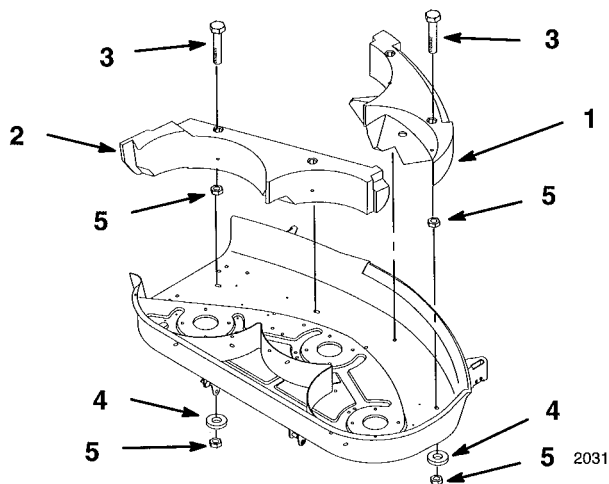

Figure 20
2. Place the left side baffle inside cutting chamber. Secure the baffle to mower with 1-1/4" bolts through baffle and outside of deck (Fig. 20). Secure with 5/16" lock nuts.
2. Remove lock nuts from right side baffle (Fig. 20). Lift baffle and slide out of interlock with left side baffle to remove.